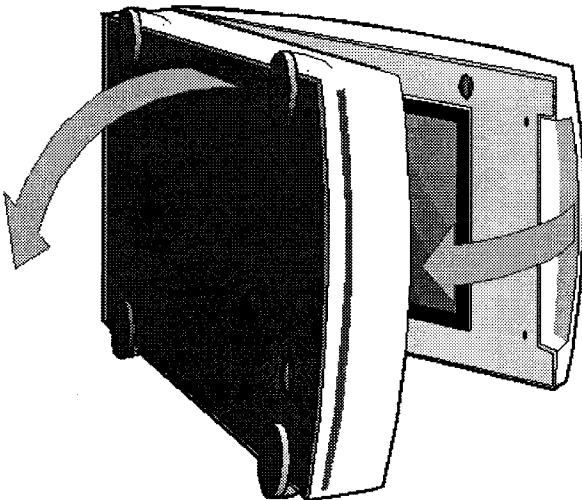

Fig. 2.6 Moving the transparency module and turning the densitometer upright.
6. Move the transparency module towards the body and turn the densitometer upright (Figure 2.6).